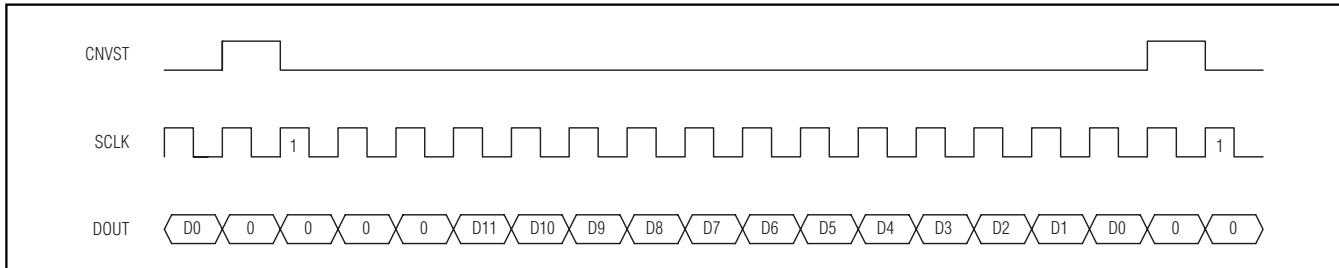

Figure 17. DSP Interface—Continuous Conversion
The MAX1276/MAX1278 can also be connected to the TMS320C54_ by using the data transmit (DX) pin to drive CNVST and the CLKX generated internally to drive SCLK. A pullup resistor is required on the CNVST signal to keep it high when DX goes high impedance and 0001hex should be written to the DXR continuously for continuous conversions. The power-down modes may be entered by writing 00FFhex to the DXR (see Figures 17 and 18).
and for an active-low frame (LTFS = 1, LRFS = 1) signal. This is also the best way to enter the power-down modes by setting the word length to 8 bits (SLEN = 1001). Connect the V_L pin to the ADSP21_-- supply voltage when the MAX1276/MAX1278 are operating with a supply voltage higher than the DSP supply voltage (see Figures 17 and 18).